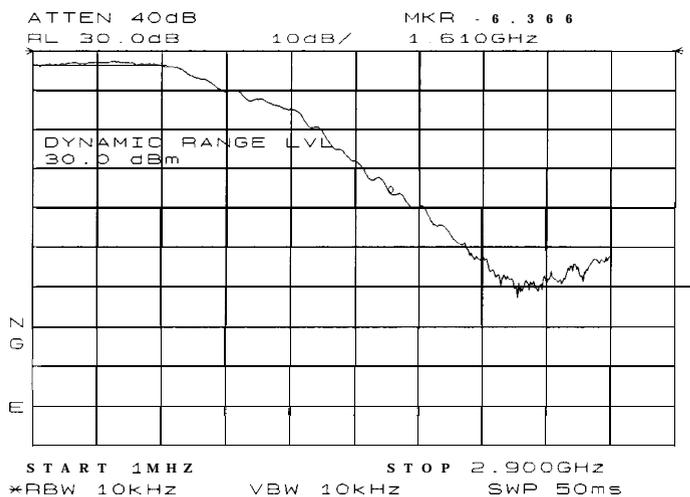

Figure 2-43.
After returning NORM REF LVL to 0 dB, increase RANGE LVL to 30 dB. As shown in Figure 2-43, the trace moves fully within the graticule. Compare the settings: (1) input attenuator value has changed to 40 dB, (2) the marker-amplitude readout displays -6.3 dB, and (3) the ERR 903 A>DLMT error message no longer appears.